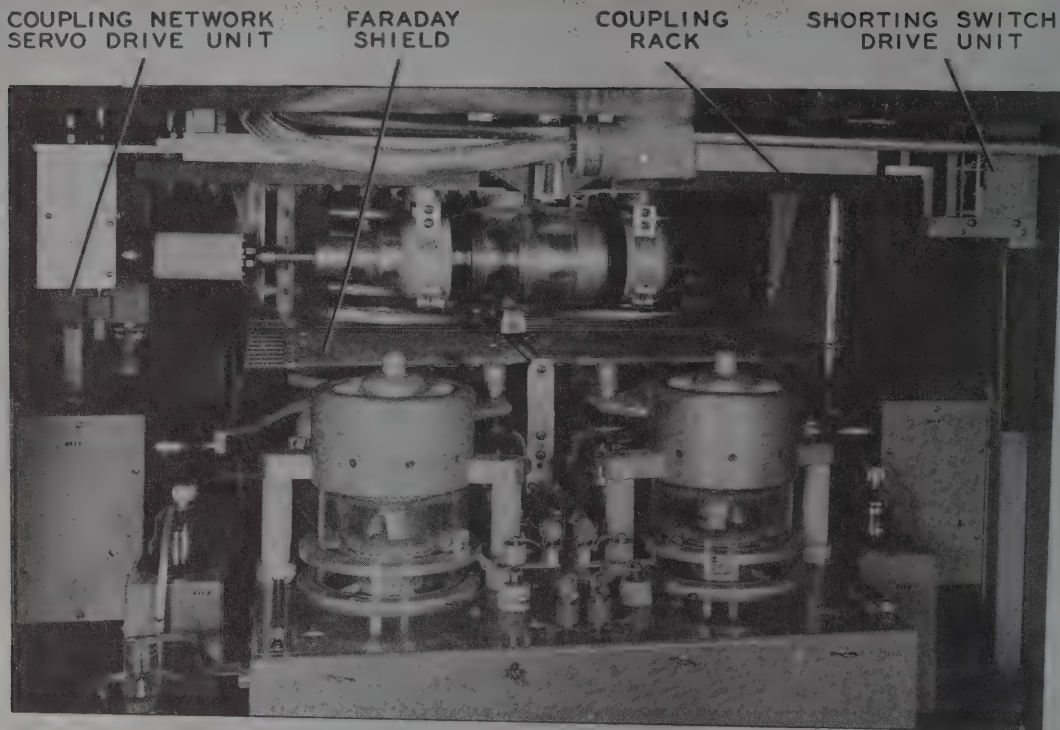

Figure 16. Radio Transmitter T-454/FRT-26, Showing Coupling Platform in Place.
- (b) This coupling unit, or rack, must be installed from the rear of the cabinet. Figures 16 and 185 illustrate its placement. It will be noted that the driving motor and its gearing are located on the right-hand end as viewed from the rear
- (7) *Coupling network.*